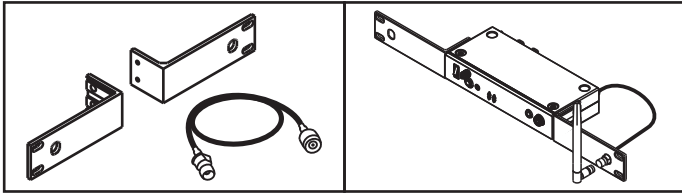

Fig. 3
- (B) Install an optional FB-71 rear-to-front rackmount kit with cable. Attach supplied antenna to the front for improved optimal transmitting efficiency, as Fig. 3: